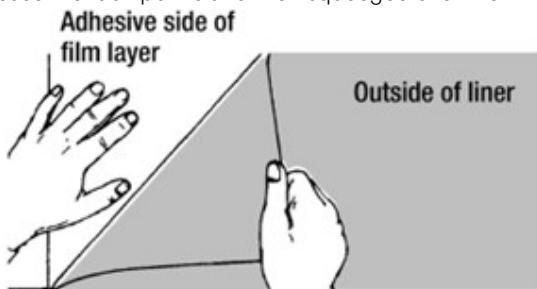

Figure 3. Removing Liner From the Film
3. Pull off the entire liner in a continuous motion at an 180 degree angle. If the liner is scored, bend the liner at the seam and then remove it. Always remove the liner from the film layer (rather than the film layer from the liner) to avoid stretching the film. See Figure 3.